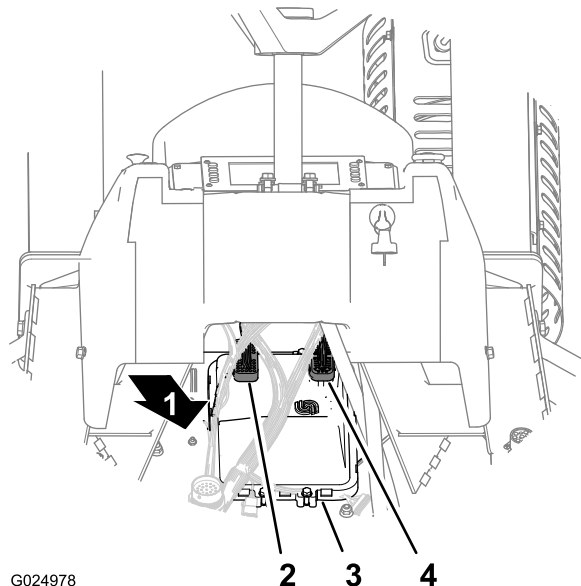

Figure 117
2. Disconnect the 50-socket connector (CPU 1) from the back of the computer module (Figure 117).
3. Disconnect the 38-socket connector (CPU-2) from the back of the computer module (Figure 117).
1. Connect the 38-socket connector (CPU-2) to the back of the computer module (Figure 117).
2. Connect the 50-socket connector (CPU 1) to the back of the computer module (Figure 117).